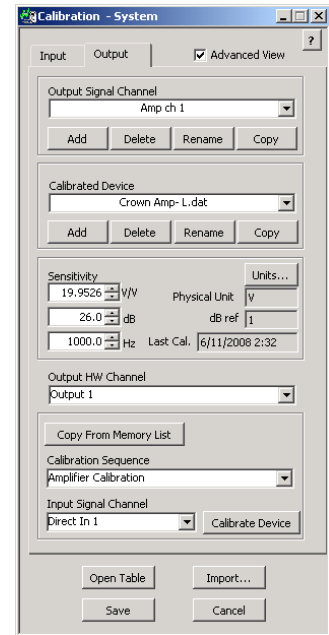

Figure 1-12: Amp Calibration
2. Select the Output Tab and select the Output Signal Channel to calibrate. In the example in **Figure 1-12** "Amp ch 1" is selected.